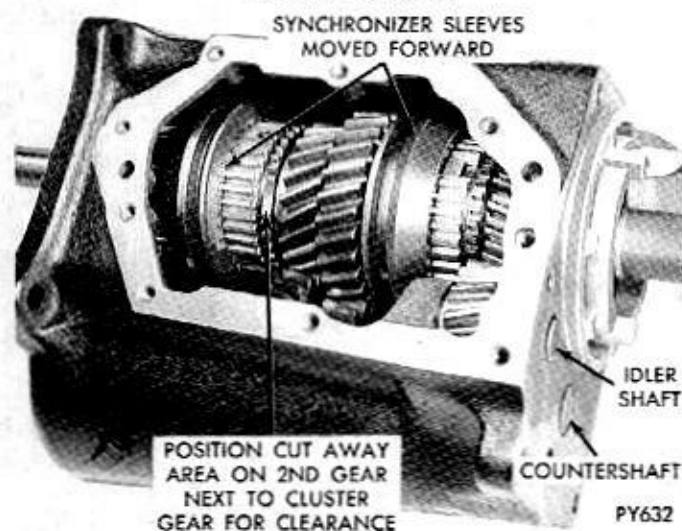
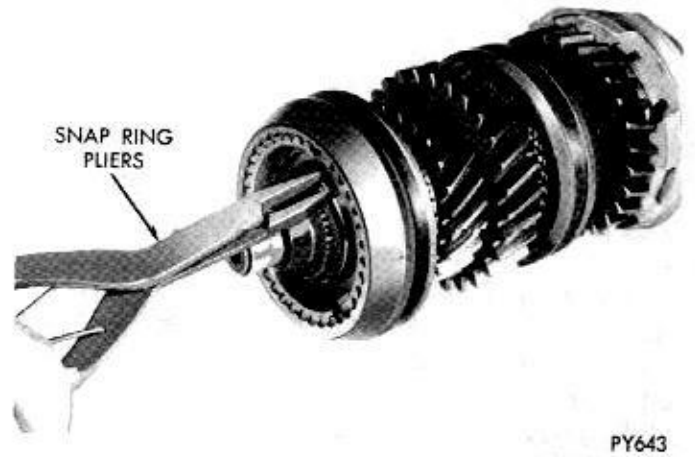

Fig. 6—Position 2nd Gear and Shift Sleeves for Clearance
Fig. 14—Snap Ring—2nd-3rd Synchronizer Clutch Gear to Mainshaft—Removal or Installation
(23) Install 2nd-3rd clutch gear snap ring on shaft (Fig. 14).
(24) Move 2nd-3rd synchronizer sleeve forward as far as practical (limited by need to retain struts in place) and install front stop ring (coated with grease to hold it in position) inside sleeve with lugs indexed to struts.
(25) Rotate cut out on second gear so it is toward countershaft gear for clearance (Fig. 6).